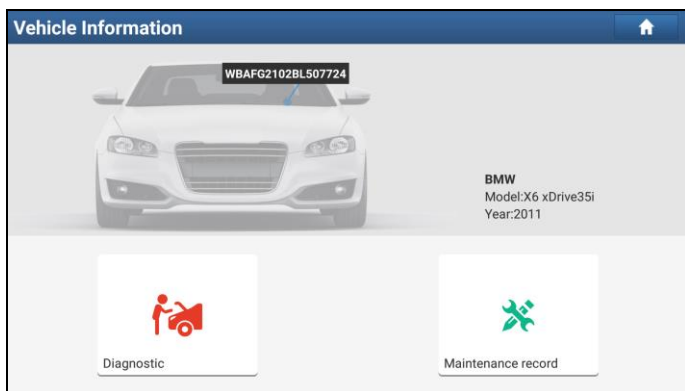

Fig. 5-5
A. If the VIN can be found from the remote server database, a screen similar to Fig. 5-5 displays:
- If the VIN scanned is incorrect, tap the result field to modify it and then tap “OK”. If the VIN exists on the remote server, the system will enter the vehicle information screen. See Fig. 5-5.